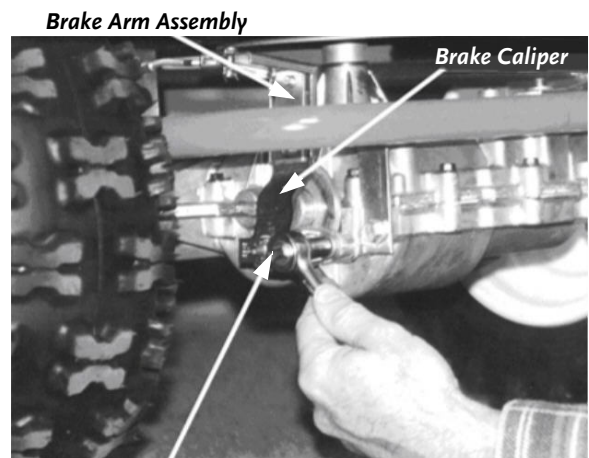
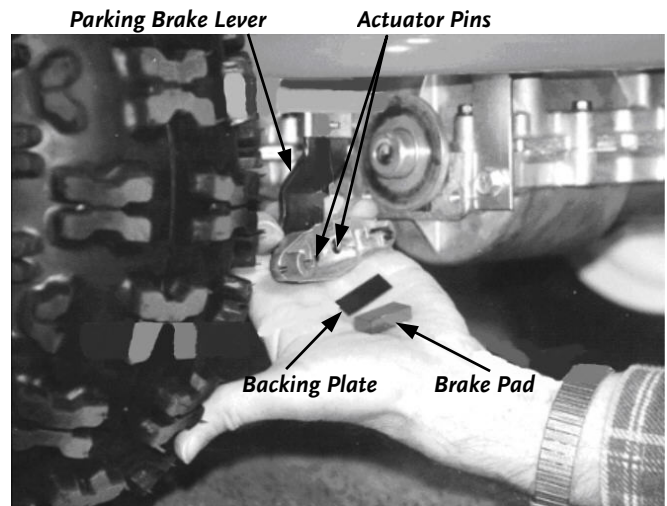

Figure 21
Figure 23
2. Locate the Brake Caliper at the right front of the machine (**Figure 21**). Remove the two (2) Caliper Bolts holding the Parking Brake Caliper with a 1/2" wrench, and then carefully remove the Caliper.
5. Replace the Caliper Housing and its parts: two (2) Actuator Pins, the Backing Plate, and the second Brake Pad (**Figure 23**). Make sure the Brake Arm Assembly is in the upright position and the recessed cutout on the Caliper is facing up with the Plate to the rear. Be sure that the Parking Brake Lever is pointing up (**Figure 21** on page 27). Reinstall the two (2) Caliper Bolts and be careful not to over tighten them.